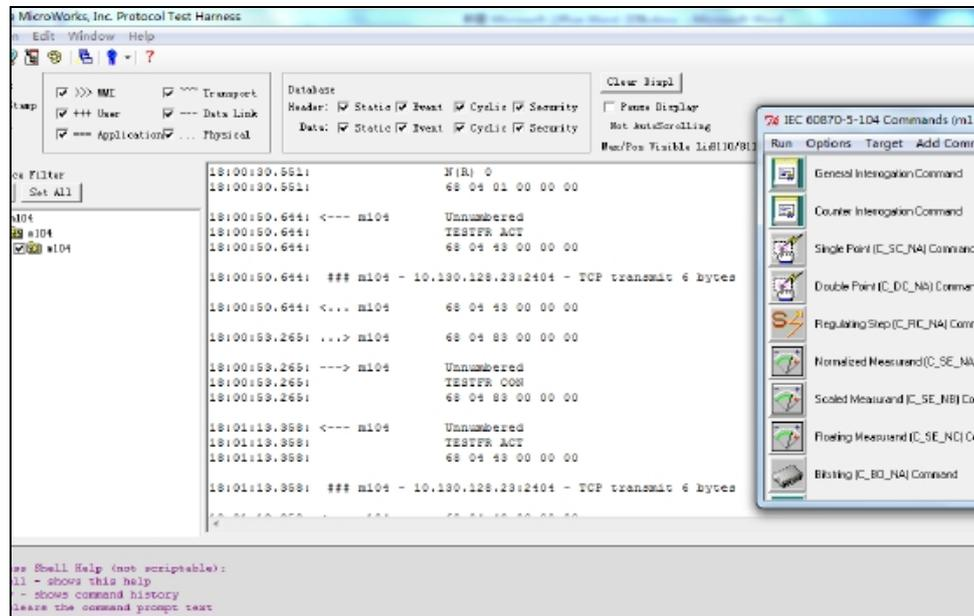

Figure 2-28 Successful configuration log
4) Successful connection log is shown in Figure 2-28.